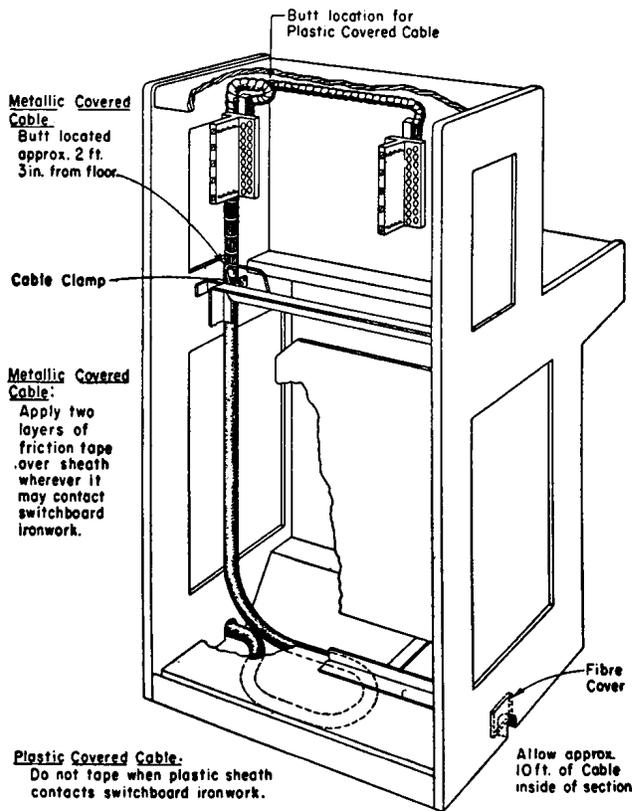
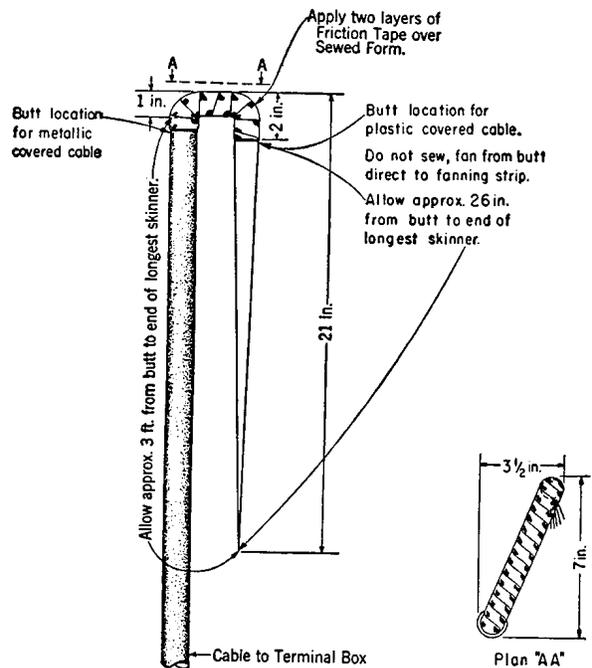

Fig. 7—Cable Entering Left Side—No. 551A PBX
Fig. 13—Cable Form for No. 551B—80-Line PBX
3.21 Run the cable leaving sufficient length at the ends for terminating. See Figs. 7, 8, 9, 10, 11, or 12 for method of entering cable at the PBX.
3.23 Form, fan, and sew the end of the cable for connection at the PBX as shown in Figs. 13, 14, 15, 16, or 17 and Section 461-453-210. With the use of plastic covered cable, place the cable butt as close as possible to where fanning starts in the PBX. Place the location of cable butt in PBX as indicated in Figs. 7, 9, 11, or 12, depending on the type of cable sheath.